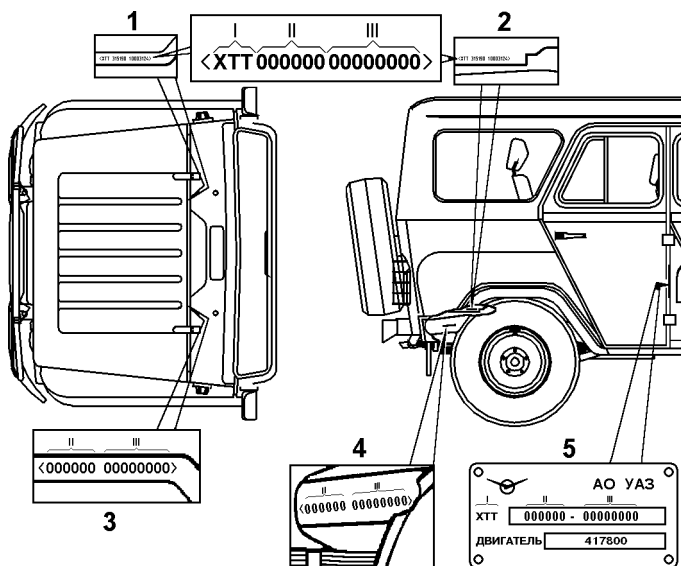

Fig. 5. Automobile Marking:
**The identity number of the automobile** is indented on the nameplate, on the level flange of the body front upper panel (Fig. 5).